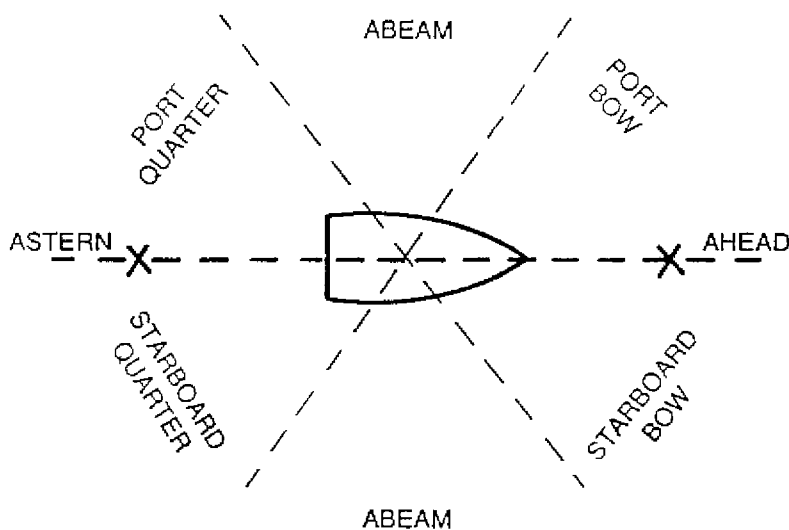

Figure 5:5
- (7) **STARBOARD** - The right hand side of a vessel looking towards the bow (see Fig 5:4).